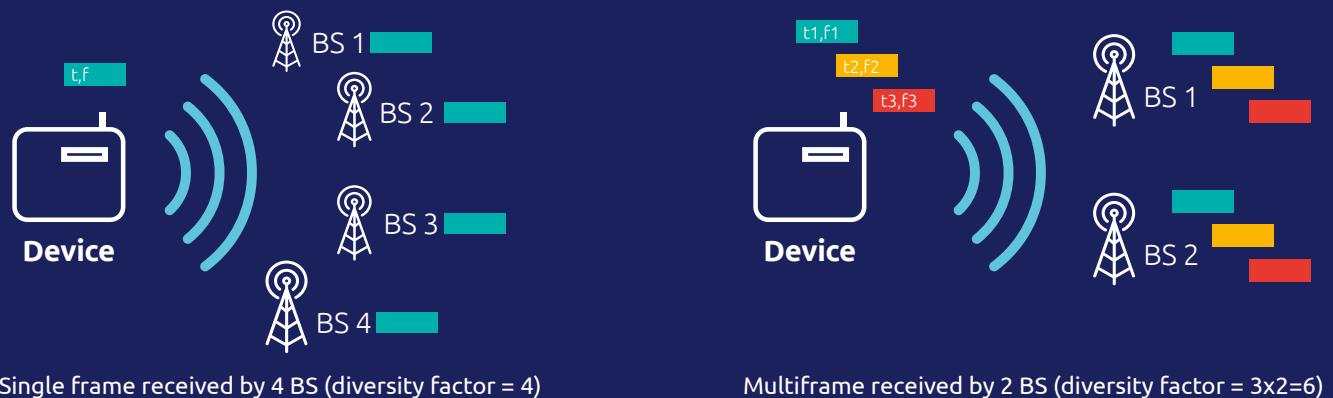

Figure 2: global diversity factor illustration with single frame (left) or multiframe (right)
Classical wireless systems *tightly discipline* their devices to minimize collision and packet loss. Tight discipline requires link control. Remember figure 2 in §2.2? Link control means more communication overhead and lower energy efficiency...not really suitable for small, infrequent IoT transmissions!
- ❖ optional time diversity with device-generated multiple frames, illustrated on the right-hand side of figure 2, consists of a device generating 3 distinct radio bursts (same payload, different frequency and coding).
The global diversity factor is simply the number of effective receptions in the network for a given transmission, as illustrated in figure 2. The higher the global diversity factor, the higher the quality of service.